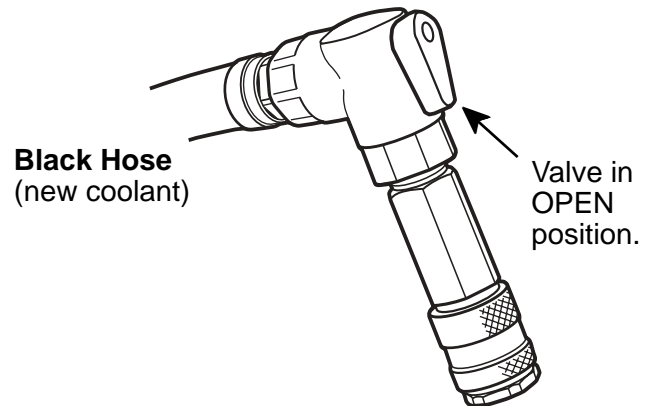

Figure 8
5. Connect the black hose (new coolant) to the step adapter leading into the engine. The valve on the black hose should be OPEN. See Figure 8.